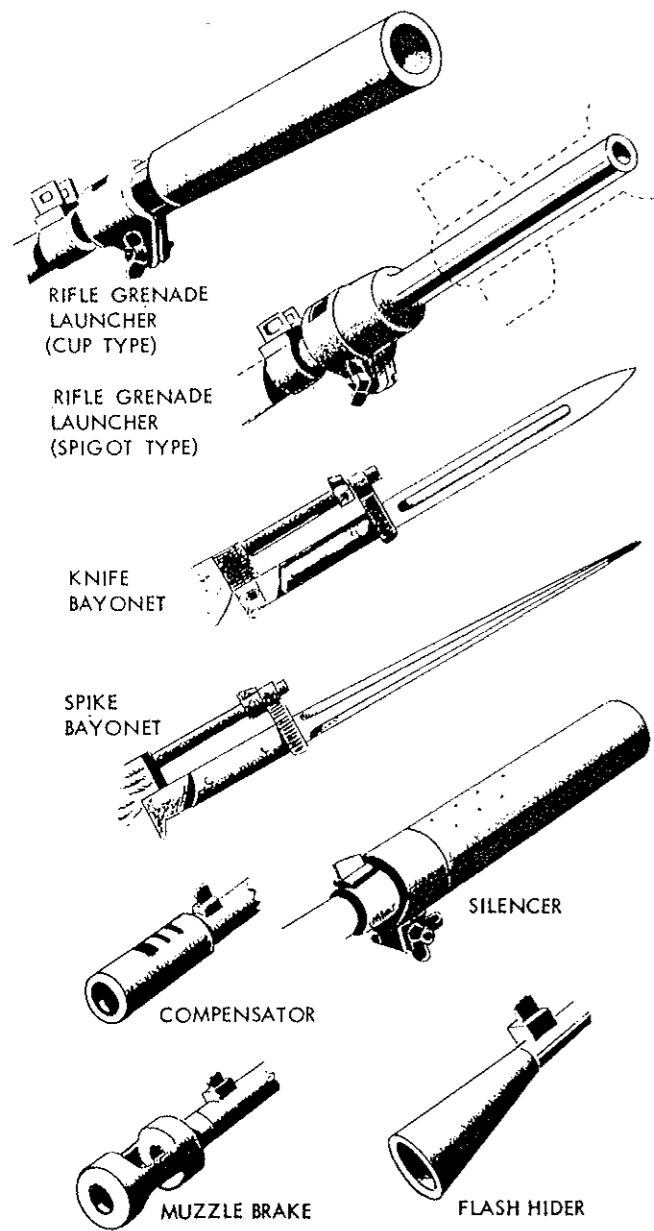

Figure 15.
13. Is the weapon provided with: (a) a flash hider; (b) a muzzle brake; (c) a compensator; (d) a silencer (fig. 15)?
2. Is a bayonet provided? What are its dimensions and shape, and what is the method of attachment (fig. 15)?
grenade has a hollow tail which fits over the spigot (fig. 15).